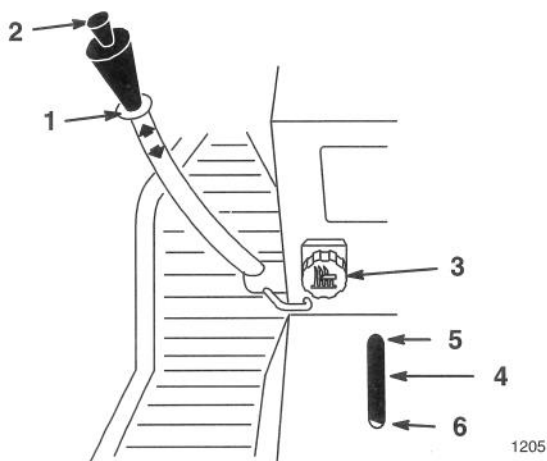

Figure 16
The attachment lift lever (Fig. 16) is used to raise and lower various attachments.
The Dial-A-Height control (Fig. 16) is used to limit the downward travel of the attachment. The Dial-A-Height knob is rotated to change the location of this stop, up or down.
1. Raise the attachment lift lever: Refer to Raising Attachments. In the raised, position the Dial-A-Height knob (Fig. 16) can be rotated to change the stop location. Turn clockwise to raise and counterclockwise to lower the height of the attachment.
2. The Dial-A-Height indicator (Fig. 16) will show the change, high to low, in attachment lift height as adjustment is made.